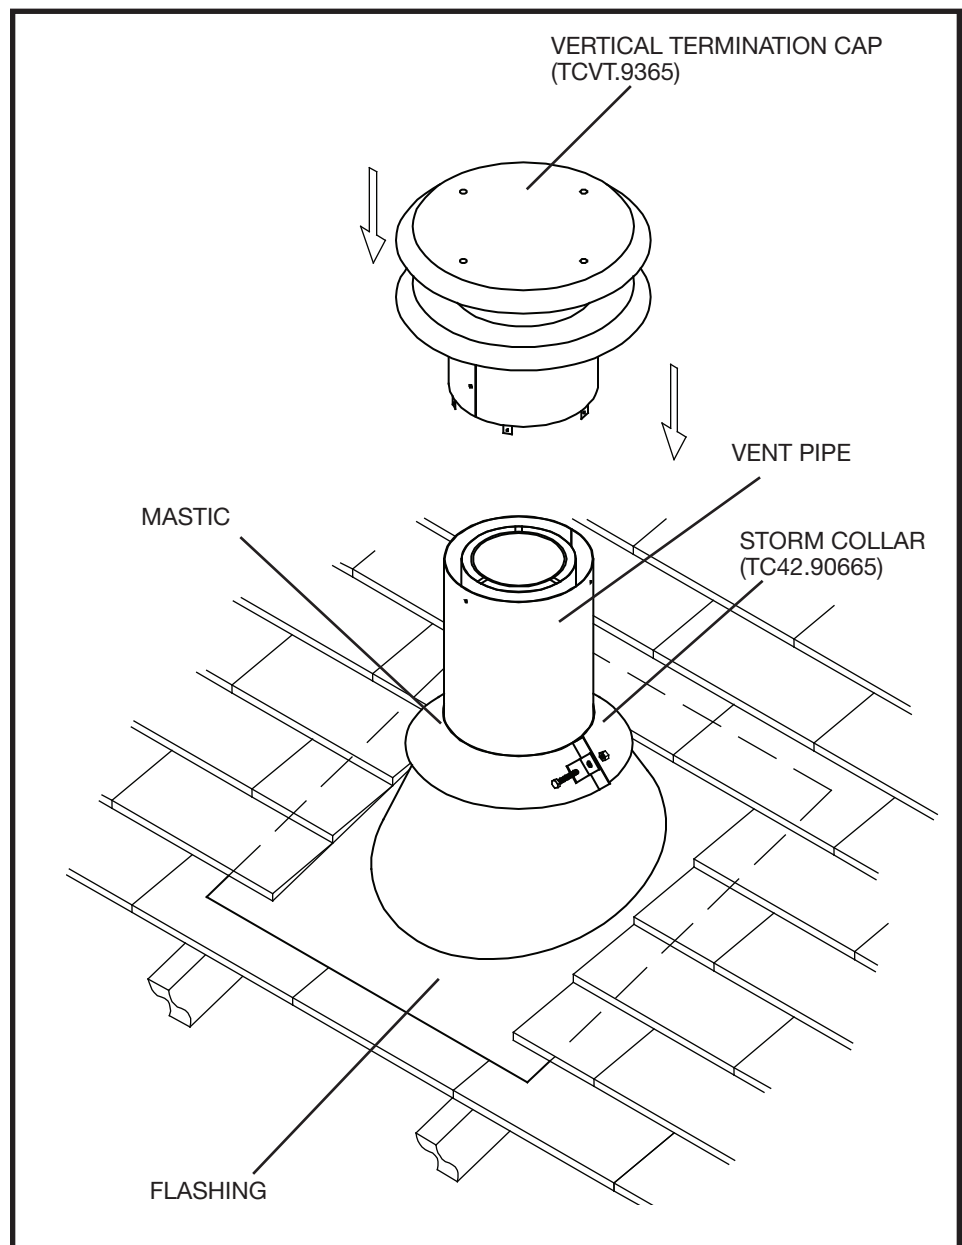

Figure 41: Roof vent terminal.
1. Place the roof flashing over the vent pipe, secure and seal it to the roof using the methods and materials appropriate for the type of roof on the building. Shingle roof example shown (Figure 41).
2. Place the storm collar down over the vent pipe until it is level. Tighten storm collar for a snug fit. Apply a thick horizontal ring of mastic around the pipe at top of the storm collar (Figure 41).